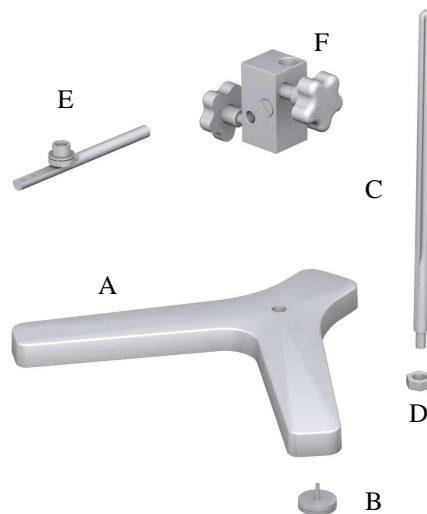

Fig. 5 Set-up for the viscometer base
- Remove all of the parts from the carry-case. Note the figure below (fig 5).
- Correctly place the three height adjustable knobs (B) on the Y-shaped base (A).
- Mount the fastening rod (C) with the holding screw (D) at the base (A).
- Attach the nut (F) to the fastening rod. The viscometer should be connected to the nut (F) by means of its rod (E).